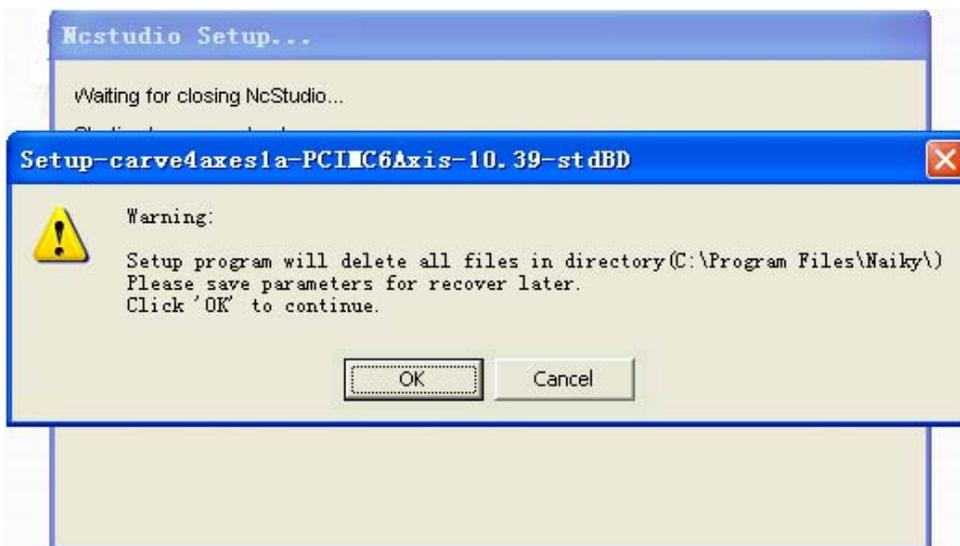

Fig. 2-3 Saving Parameters before Installation
- Click [Yes (Y)]. In order to avoid disturbance, system will ask user to save parameters and delete the old version before going on further installation. Shown in Fig. 2-3 is the prompt to save parameters before installation.